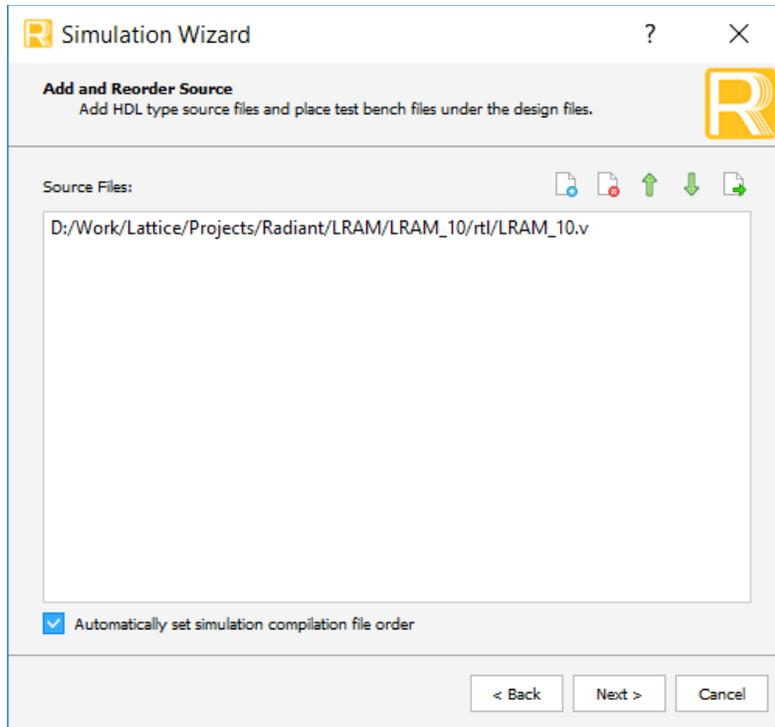

Figure 4.5. Adding and Reordering Source
3. Double-click **Next** to open the Add and Reorder Source window as shown in Figure 4.5.